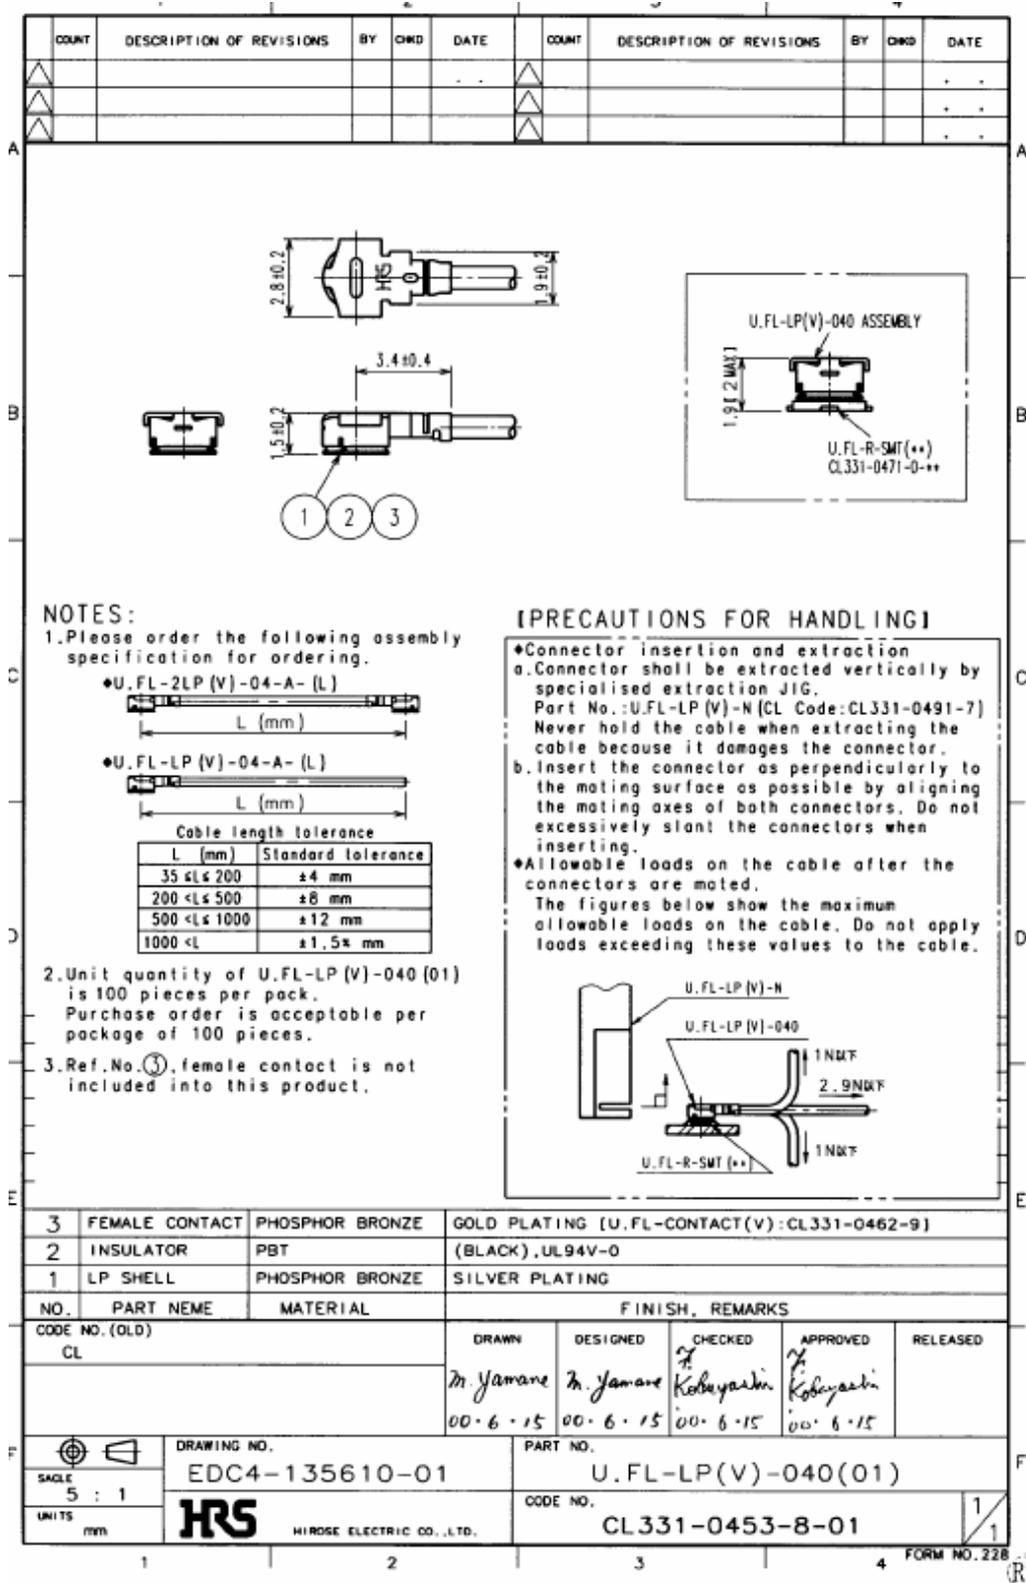

Figure 21: Specifications of U.FL-LP-(V)-040(01) plug
In addition to the connectors illustrated above, the U.FL-LP-(V)-040(01) version is offered as an extremely space saving solution. This plug is intended for use with extra fine cable (up to  $\varnothing 0.81\text{mm}$ ) and minimizes the mating height to 2mm. See Figure 21 which shows the Hirose datasheet.